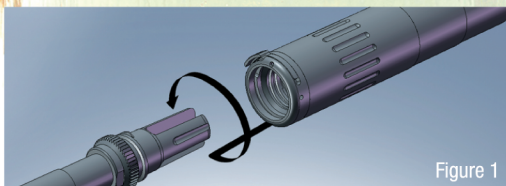

Figure 1
3) With the muzzle pointed away from you and in a safe direction, slide the 416-SD silencer over the AAC flash hider until the external threads on the flash hider engage the internal threads of the silencer. Rotate the silencer by hand counter-clockwise 1.5-2 turns, until the shoulder at the rear of the flash hider engages a mating surface within the silencer and will no longer turn (See Figure 1). As the silencer is threading onto the flash hider, teeth on the ratchet latch will engage the serrations on the rear of the flash hider. This will prevent the silencer from unscrewing during use.